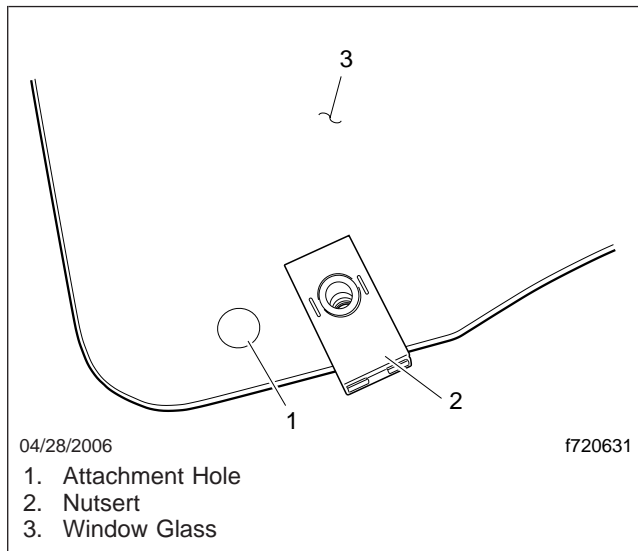

Fig. 5, Window Fastening
12. Remove the window glass from the motor and regulator mechanism. See Fig. 5.
2. Install the window glass on the motor and regulator mechanism. See Fig. 5.